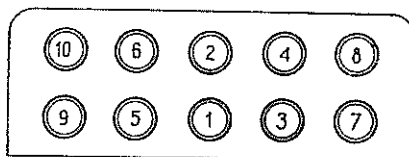

Fig. 4. Cylinder Head Nut Tightening Sequence
2. Tighten the cylinder head nuts in the sequence given in Fig. 4; this operation should be performed with a torque indicating wrench or with a special wrench furnished with the car without jerks and on the cold engine only. A torque of 6.7 to 7.2 kg-m should be exerted. Avoid overtightening these nuts to avoid breaking of the studs.